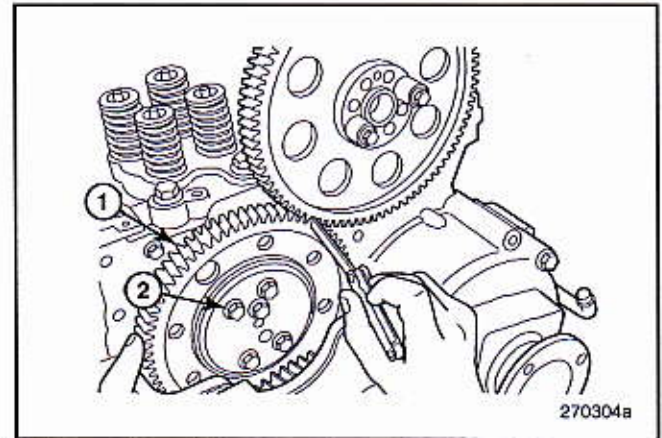

Figure 453 — Idler Gear Flank Clearance Adjustment
- c. Insert a 0.1 mm (0.004 inch) thickness gauge on the pressure side of the idler and camshaft gear teeth (Figure 453).